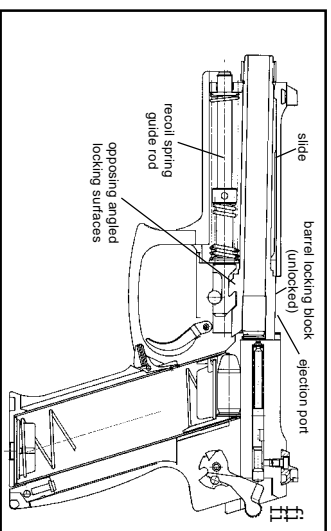

Figure 6 Unlocking
B. **Unlocking** - (See Figure 6) The gas pressure and energy produced by the propellant gases push rearward on the slide, which is locked to the barrel by the engagement of the barrel locking block within the ejection port milled into the slide. The opposing angled locking surfaces incorporated into the design of the barrel locking block and recoil spring guide rod cause the rear of the barrel to tilt downward as the slide moves rearward. By the time the slide and barrel have recoiled approximately 5 mm, the projectile has left the barrel and the gas pressure within the chamber has dropped to a safe level. The barrel locking block then disengages from the slide. The slide is now free to recoil rearward independently of the barrel.